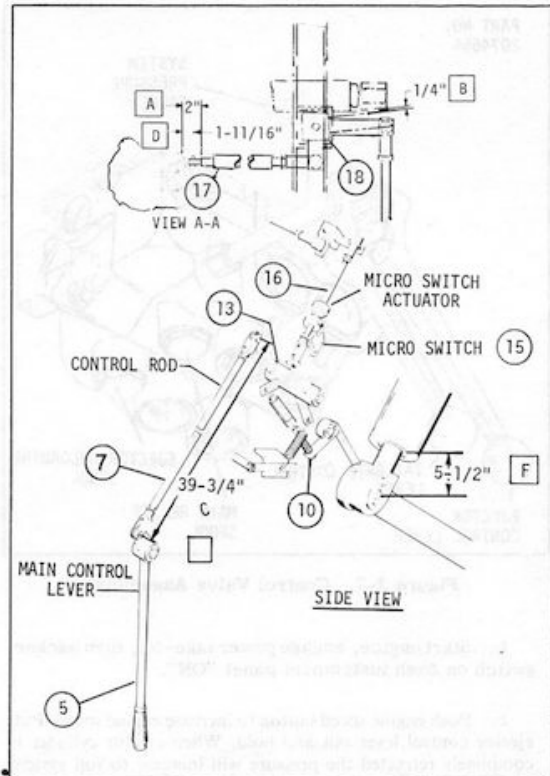

Figure 3-5. Control Lever Assembly
b. Linkage Adjustment Procedure. (See figure 3-5.)
(1) Pull Tailgate Control Valve all the way out, dimension "A" equals 2 inches, then check to see that the Bell Crank (Item 18) has a minimum of 1/4 inch clearance between the Bell Crank and Hydraulic Hose fitting at point "B". (See View A-A in Figure 3-5.)
(2) Adjust length of Control Rod (Item 7) to 39-3/4 inches, dimension "C" (Figure 3-5).
(3) Return Tailgate Control Valve to a neutral position, dimension "D" equals 1-11/16 inches. Then adjust length of Actuator Assembly (Item 16) and position Micro Switch (Item 15) so that Roller on Micro Switch (Item 15) rests on the low position of the Actuator (Item 16).
(4) Adjust Pivot Assembly (Item 10) so as to stop the packing cycle where the eye of the outside packing cylinder measures 5-1/2 inches to the head of barrel, dimension "F" (Figure 3-5).
(5) To set dead man control push control handle into forward position and set adjusting bolt on spring lever stop so that control handle can be released from forward position and return to stop or neutral position. The setting should be such as to require manual force to hold the handle in forward position and return to stop position when released.
The control lever is moved forward to lower the packing mechanism to the loading sill. If by doing this the packing mechanism does not operate, this could indicate a mechanical problem. By removing the side cover on the right hand side of the tailgate and observing the control linkage, it is found that the bell crank lever is hitting the hydraulic hose fitting. Adjustments can be made by following the Linkage Adjustment Procedure stated in Section III, paragraph 3-4.b., Reference Figure 3-5.
(b) Controls out of adjustment. See Figure 3-5	(b) Adjust controls as specified - Item 3-4. b